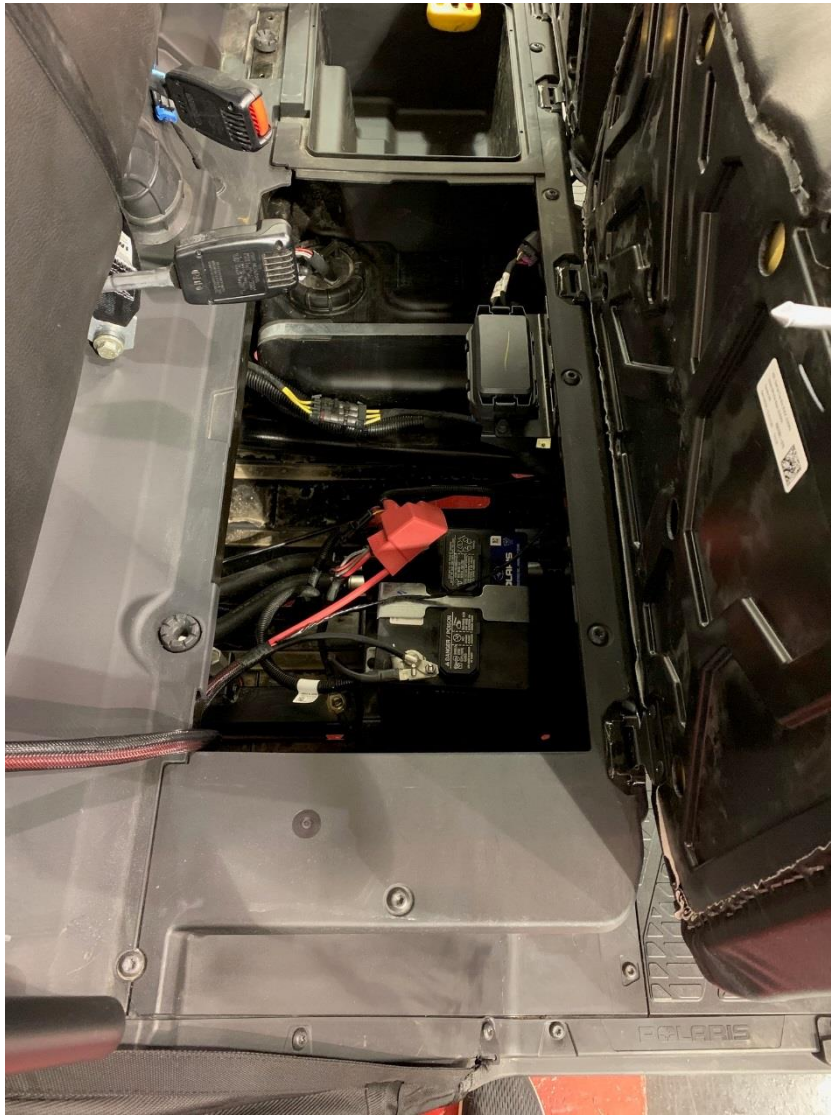

Figure 6: Fold seat forward and remove tray for battery access.
7. Fold the seat forward to access the battery. With the seat folded forward, pull out the passenger side storage tray. See Figure 6.
16. Reinstall the hood, the wire access tunnel cover, and passenger side under seat tray. The corner of the sea tray flange will flex enough to let the wires through. See Figure 9 and Figure 6.